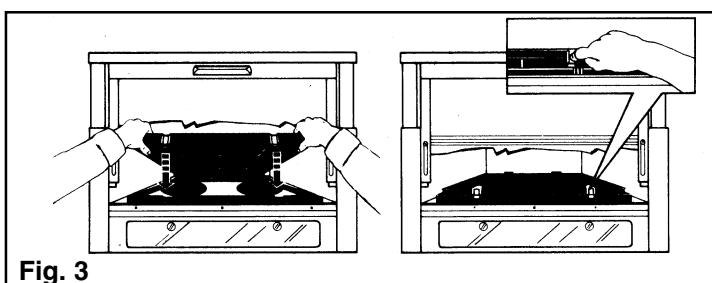

Fig. 3
1. Pull out the vapour catcher (A).
3. Insert the charcoal filter into the lugs of the frame above using the 2 red clips to retain it, press the red clips inwards, and insert the charcoal filter in the frame. **Fig. 3.**